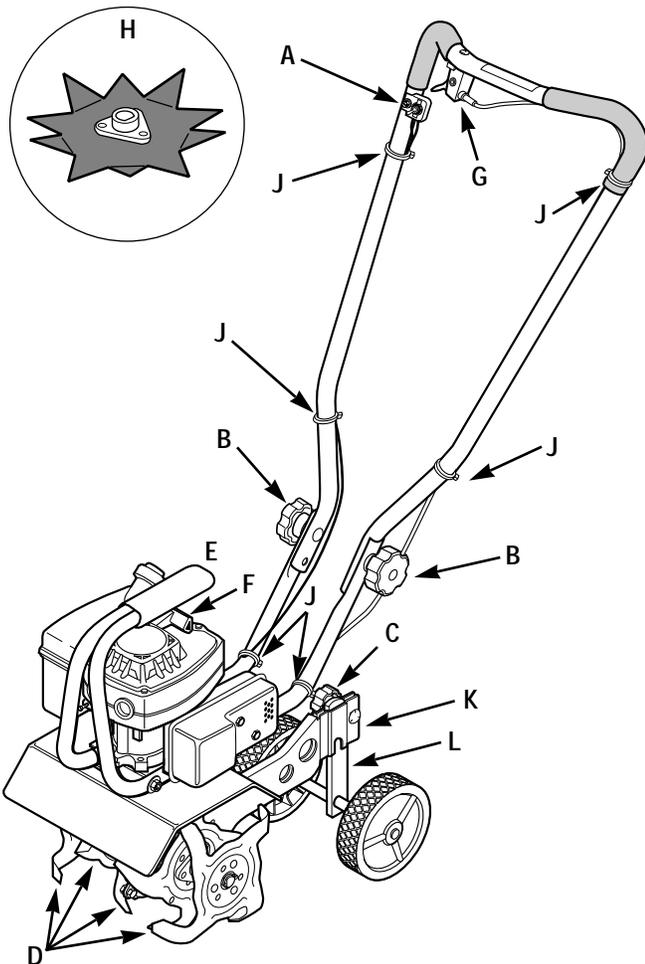

Figure 5: Features and controls.
The Border/Edger Attachment (H, Figure 5) does not need to be installed until you are ready to do edging projects (refer to instructions in this Section).
Handlebar Height Adjustment Knob (B, Figure 5)
Tilling Depth Adjustment Knob (C, Figure 5)
Adjustable Tine Patterns (D, Figure 5)
Carrying Handle (E, Figure 5)
Edger Attachment (H, Figure 5)
Engine On/Off Switch (A, Figure 5)
Throttle/Tines Lever (G, Figure 5)
Engine Recoil Start Rope (F, Figure 5)
3. Check the six plastic cable ties (J, Figure 5). Be sure that cables and ties are positioned as shown. Do not kink or pinch the control cables in the handlebar.
To stop the engine, move the On/Off Switch (A, Figure 5) to the OFF position.